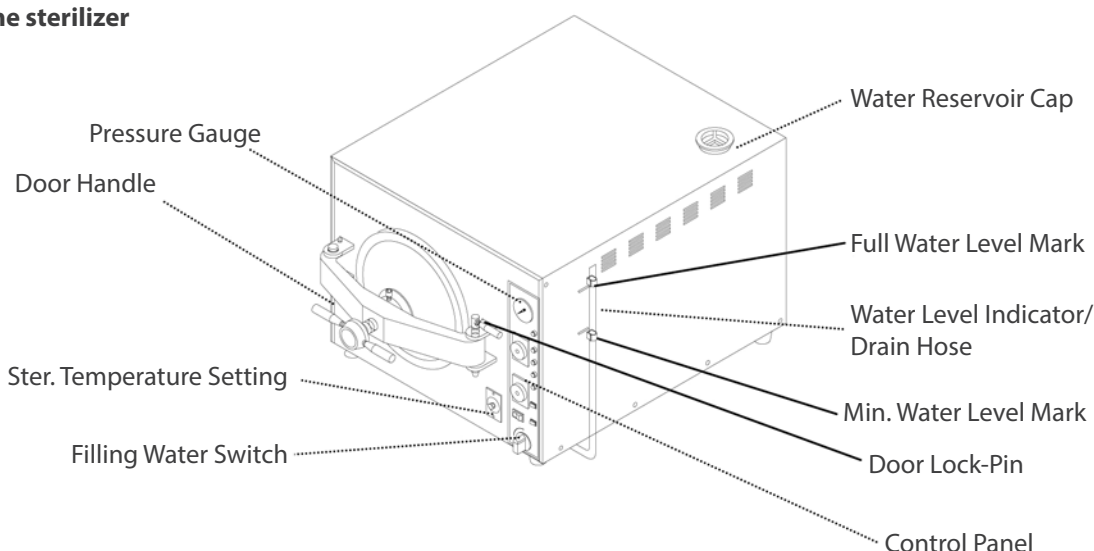

Fig. 9
G. Close the door and lock it by Door Lock-Pin (See Figure 9).